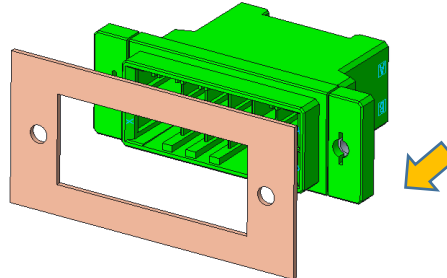

Figure 3
- II. Set to the panel from opposite area of the NUT as shown Figure 3.